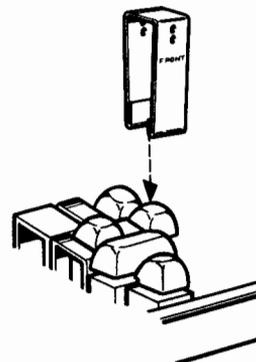

Fig. 6—Data Keytop Removal
- (b) To remove data keytops, place 346260 tool over the keytop and pull up to remove (Fig. 6).